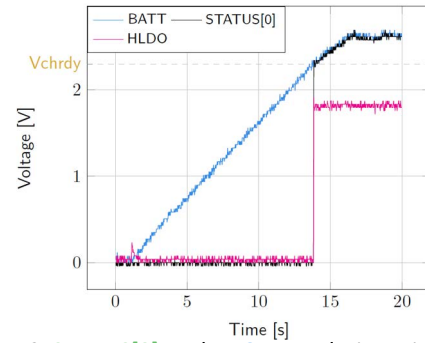

Figure 3: **STATUS[0]** and **HVOUT** evolution with **BATT**
- **BATT**: Voltage rises as the power provided by the source is transferred to the storage element (see Figure 3).
- **HVOUT/LVOUT**: Regulated when voltage on **BATT** first rises above **VCHRDY** (see Figure 3).
- **STATUS[0]**: Asserted when the LDOs are ready to be enabled (refer to the AEM00940 datasheet “Normal Mode” section) (see Figure 3).